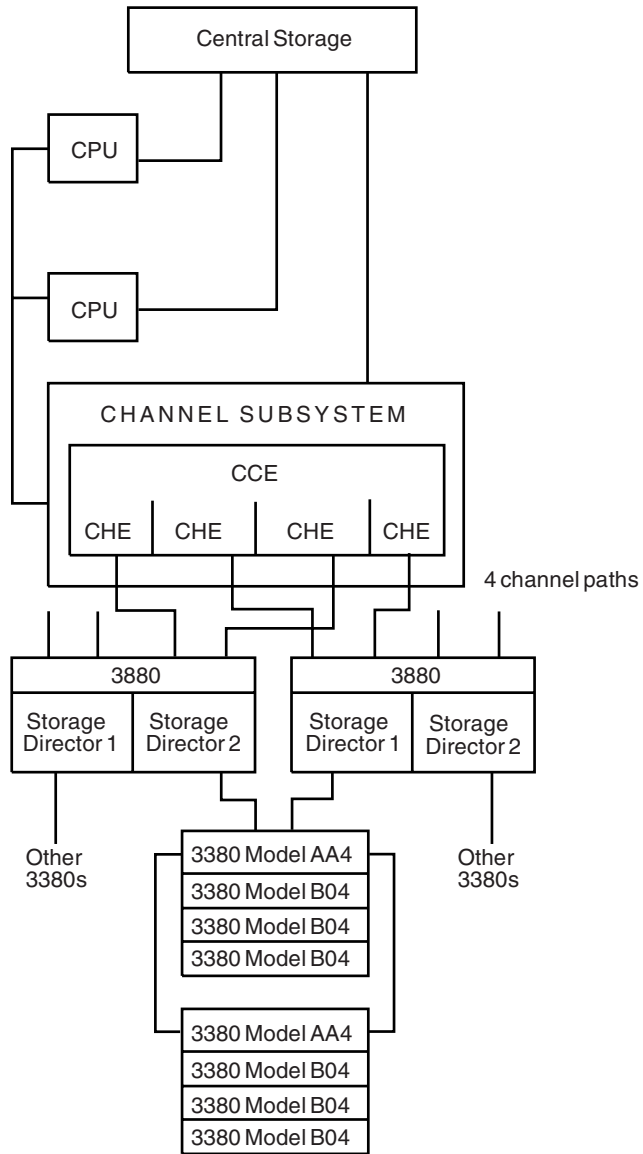

Figure 12-4. DASD Configuration for Maximum Availability with a 3090 Complex
- Figure 12-4 on page 12-4: DASD